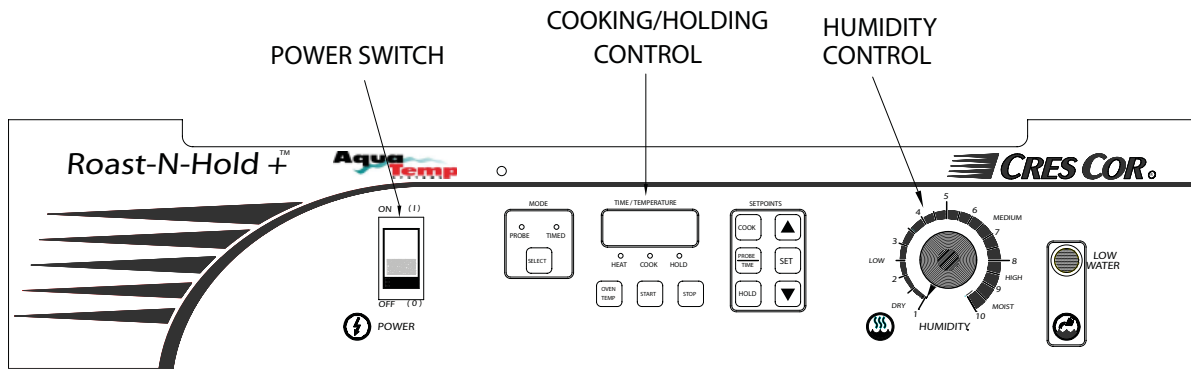

Figure 1: Control Panel
| Illustration, Figure 1 | 4 |
- Humidity control is on the right of the control panel (see Figure 1).